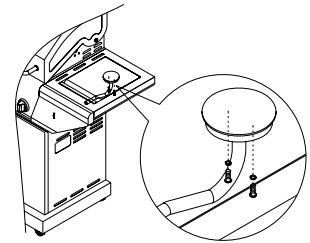

Figure 14
3. Insert Side Burner Control Knob onto the valve stem and tighten it by using the Allen Key. As shown in Fig.14.